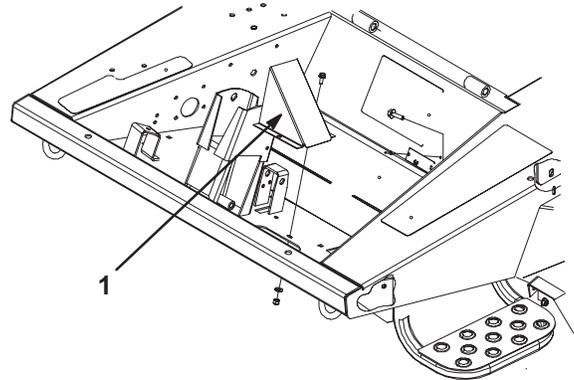

Figure 6
9. Remove the steering tube cover located to the left of the steering column (Fig. 6).
- Install the steering tube cover (Fig. 6).